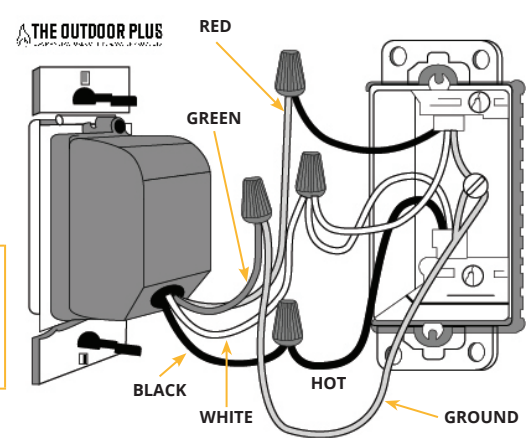

FIGURE 2
4. Connect the red timer wire to the fixture wire using a wire connector (refer to Fig. 2).
7. Connect the white timer wire to the white wires in the junction box using a wire connector (refer to Fig. 2).